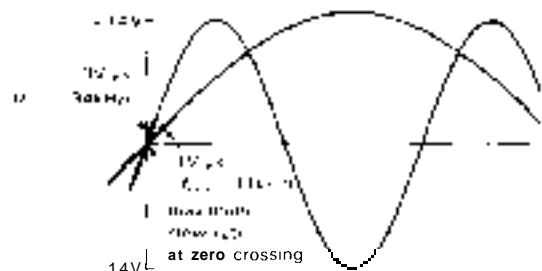

Figure 4.29. Slew-rate-induced distortion.
The op-amp "compensation" capacitance (discussed further in Section 4.32) and small internal drive currents act together to limit the rate at which the output can change, even when a large input unbalance occurs. This limiting speed is usually specified as **slew rate** or slewing rate (SR). For the 411 it is  $15\text{V}/\mu\text{s}$ ; low-power op-amps typically have slew rates less than  $1\text{V}/\mu\text{s}$ , while a high-speed op-amp might slew at  $100\text{V}/\mu\text{s}$ , and the LH0063C "damn fast buffer" slews at  $6000\text{V}/\mu\text{s}$ . The slew rate limits the amplitude of an undistorted sine-wave output swing above some critical frequency (the frequency at which the full supply swing requires the maximum slew rate of the op-amp, Fig. 4.29), thus